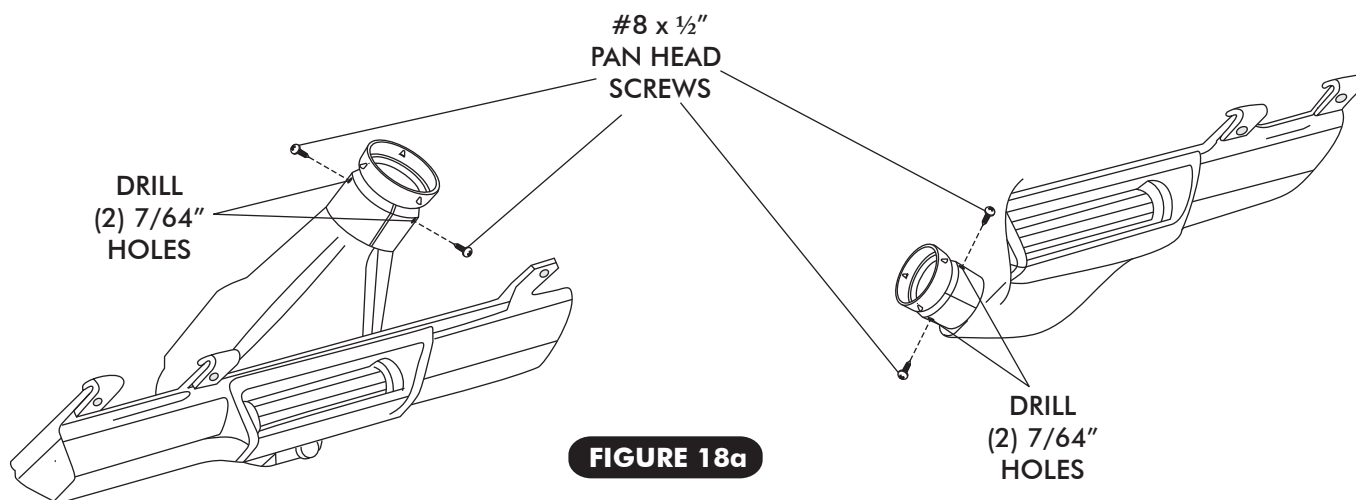

FIGURE 18a
- ☐ AFTER THE HOSE ADAPTERS ARE INSTALLED, DRILL (2) 7/64" HOLES IN THE OEM UNDER DASH LOUVER ASSEMBLIES AS SHOWN IN FIGURE 18a, BELOW.